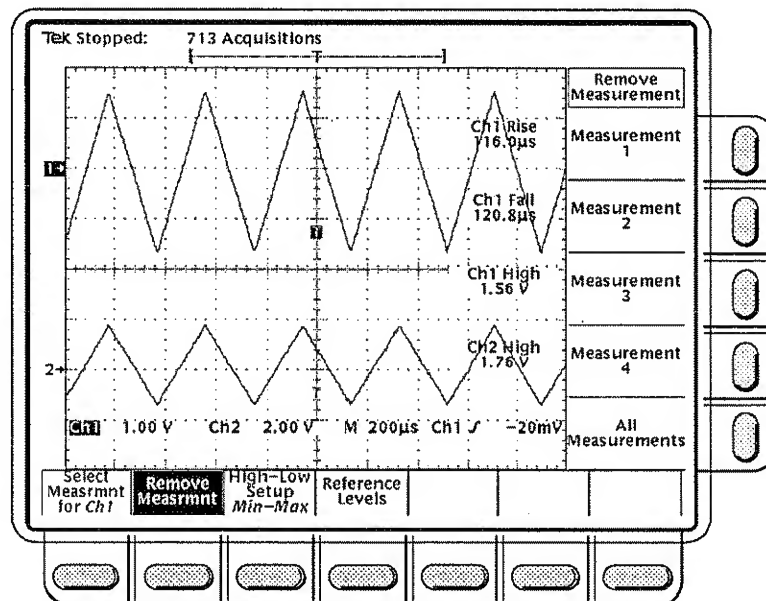

Figure 3-31: Remove Measurement Side Menu
- ☐ **Step 1:** Press the **MEASURE** button to bring up the Measure menu (Figure 3-31).
- ☐ **Step 2:** Press the **Remove Measrmnt** main menu item (Figure 3-31).